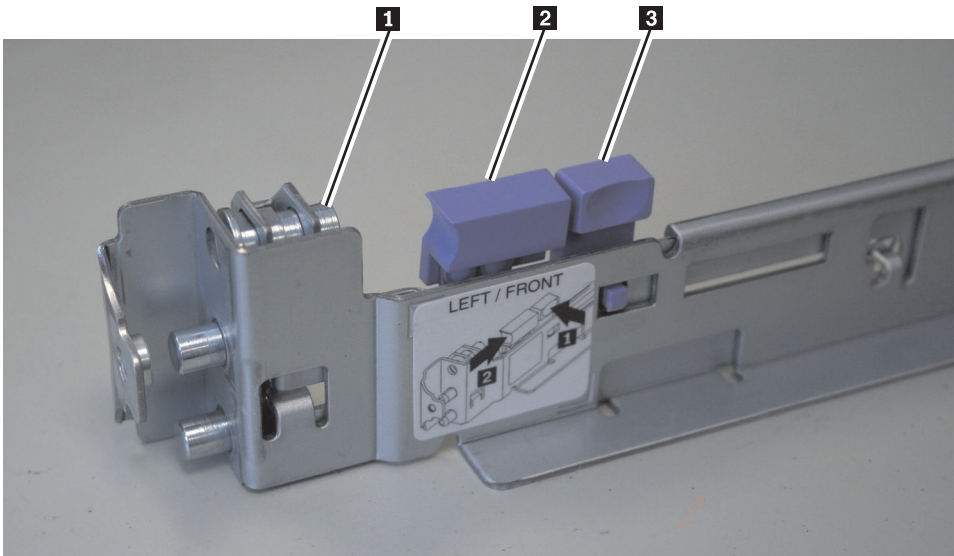

Figure 52. A closed rail-locking carrier at the front of the support rail for the SAN Volume Controller 2145-8A4
1. Ensure that the rail-locking carriers at the front and rear of each support rail are open. The mechanism to open is similar at each end. If a locking mechanism is closed, as shown in Figure 52 (for a front bracket), open it.